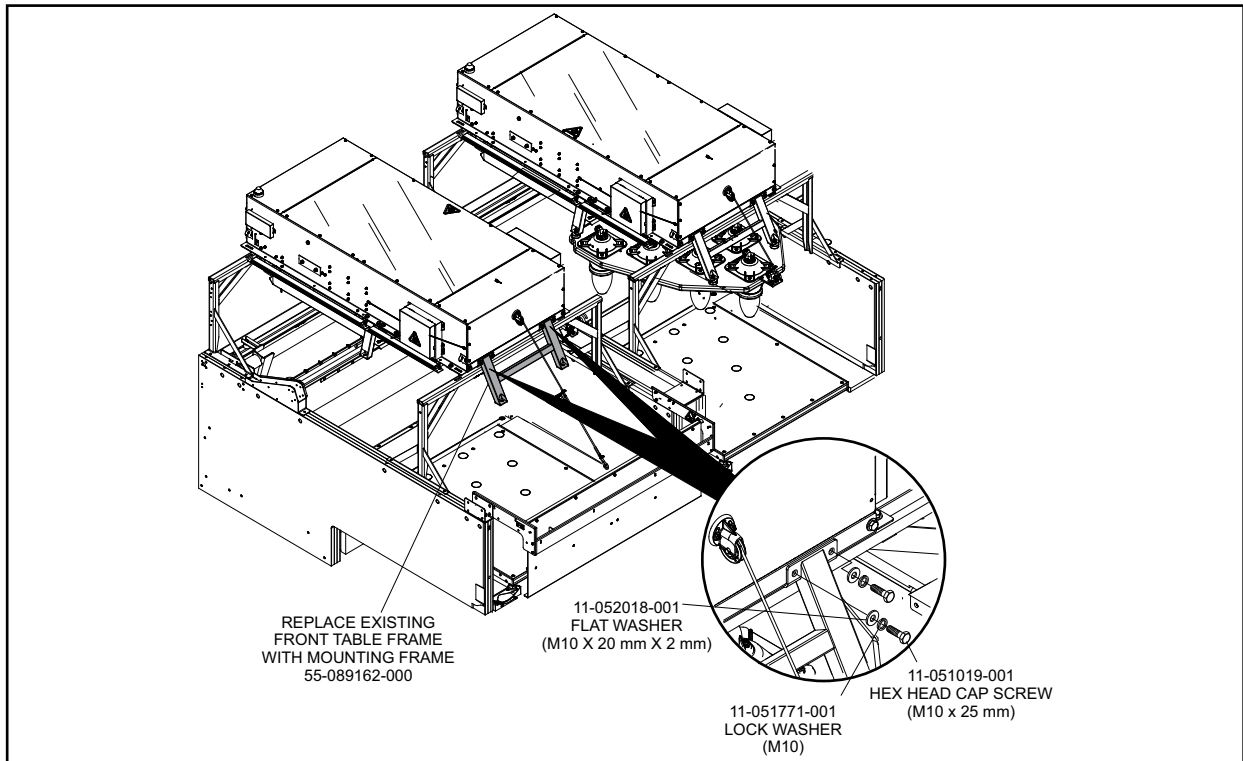

Figure 3. Replace Front Table Mounting Frame
5. Replace the existing front table mounting frame from the pinsetter main frame with mounting frame, p/n 55-089162-000. Use the existing mounting hardware to secure the replacement frame. Refer to *Figure 3*.